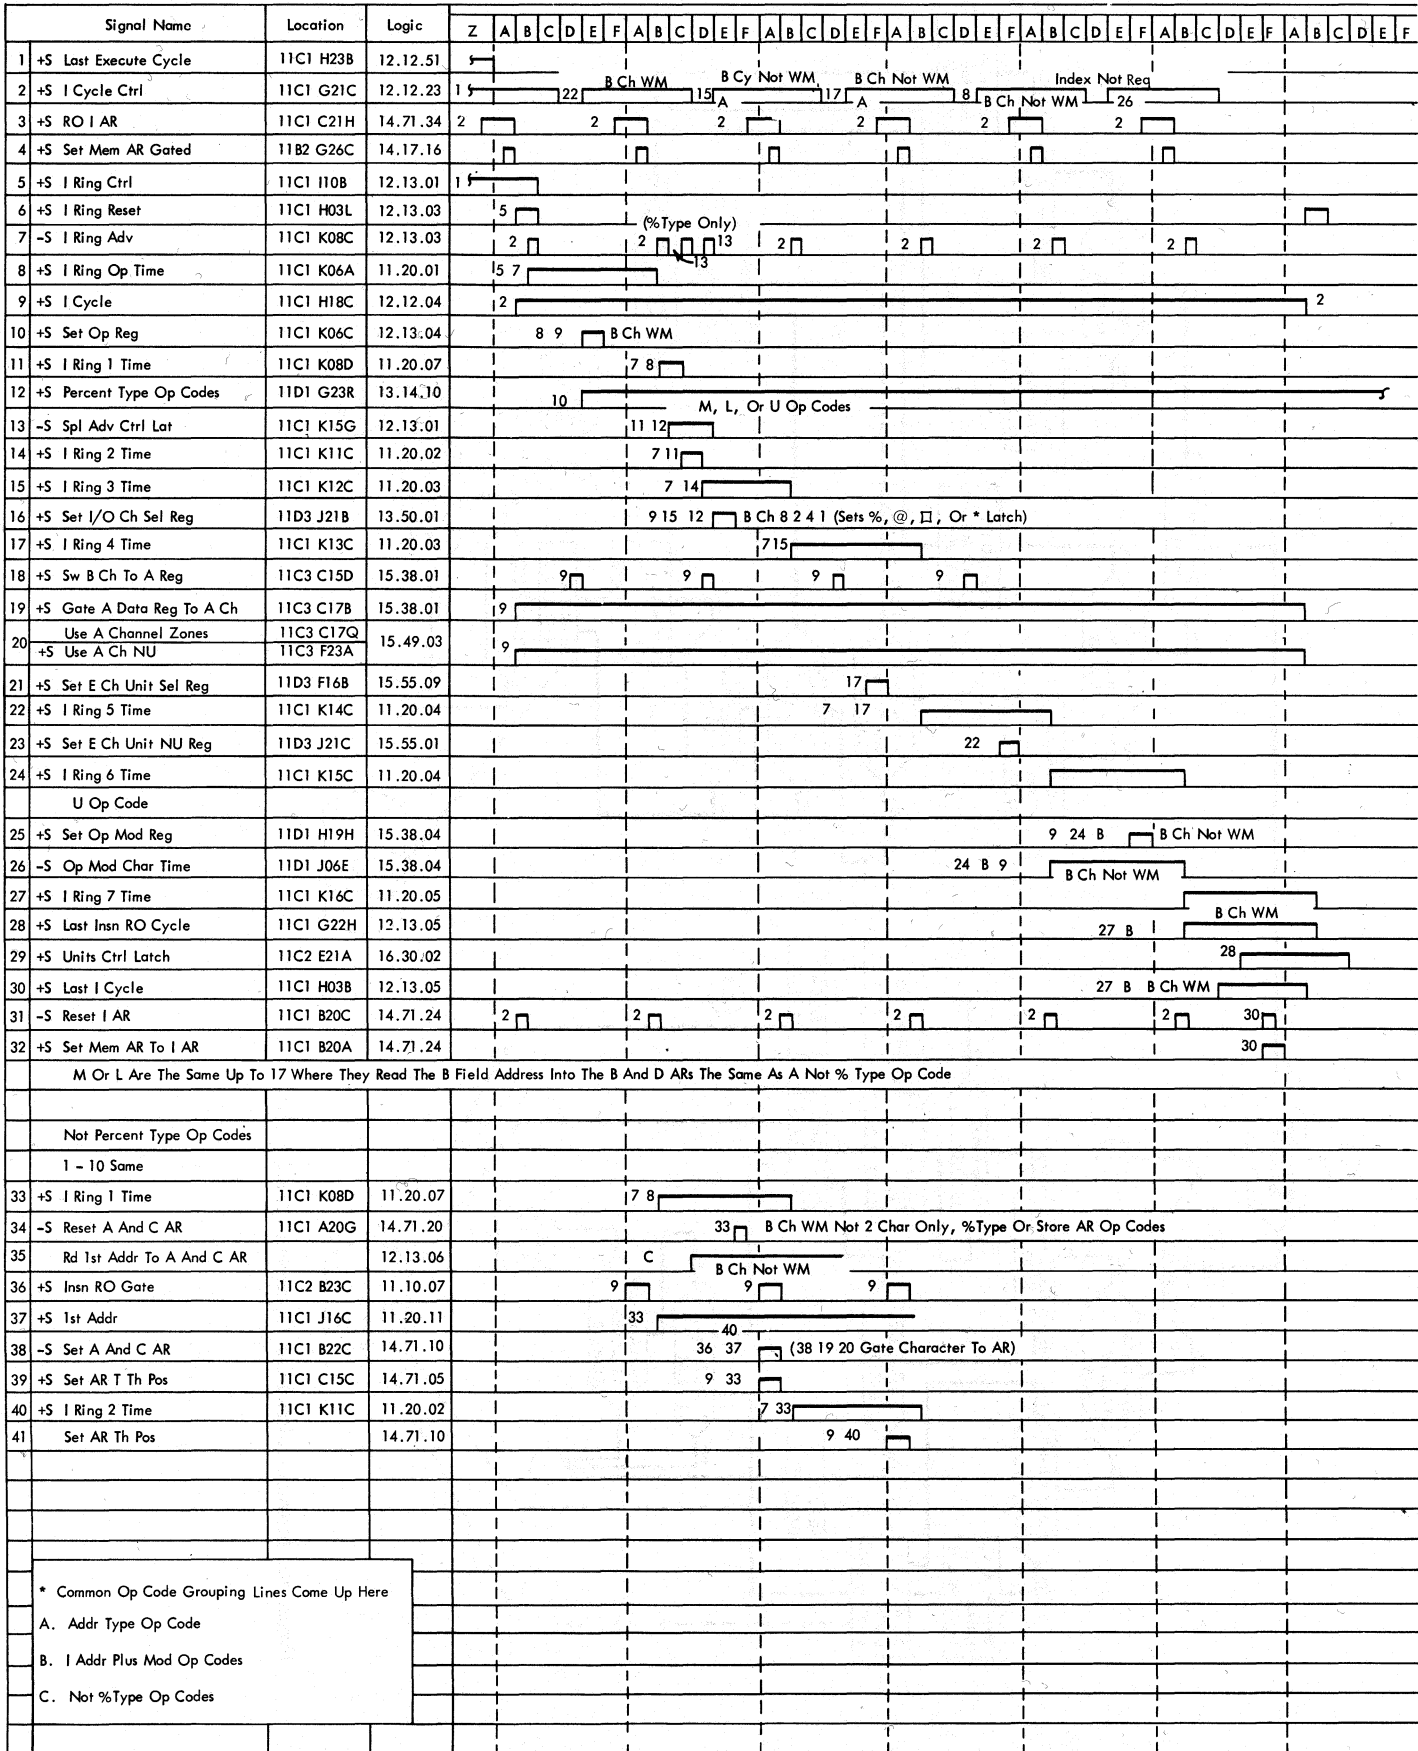

Figure 44. Instruction Read-Out Timings
"I cycle control" brings up ROIAR and STAR is set with the address of the first character (D) at 2nd CP LGA. "I-ring control" brings up "I ring reset" at LGB and the I ring is set to I ring op time by the "I ring adv" pulse at 2CP LGB to identify the first instruction word character as the operation code. The I cycle latch also comes up at LGB time. (See Figure 44.)